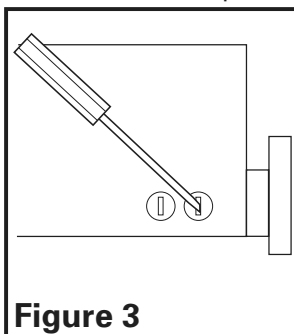

Figure 3
5. Remove the electrical knockouts using a straight-blade screw driver **(Figure 3)**.